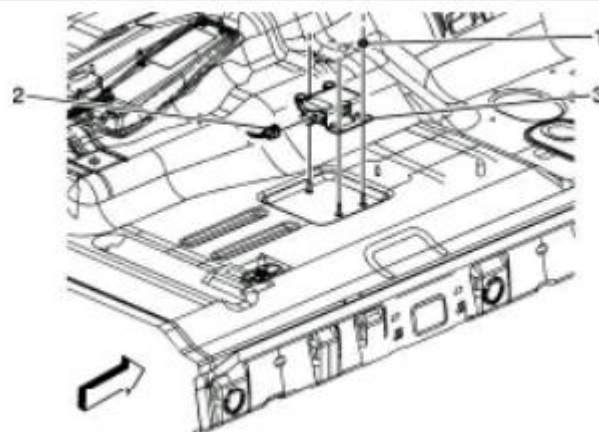

Figure 3.5: Removing the Yaw Rate & Lateral Acceleration Sensor
The lateral acceleration and yaw rate sensors are designed to send information regarding the lateral or side force and tilt (the yaw) of vehicle to the ESC module to keep the vehicle within certain safety parameters. Faulty lateral acceleration and yaw rate sensors causes the ESC light to illuminate on dashboard and also causes physical stability issues. The maintenance of lateral acceleration and yaw rate sensors involve removing, cleaning, replacing and installing the sensors. According to Kenneth (2016), the replacement of lateral acceleration and yaw rate sensors involve the following: disconnecting the negative battery cable, disabling air bag system, removing the seat mounting fastener and the front seat from the vehicle, disconnecting the electrical harness, unclipping the harness from the seat bracket, removing the yaw rate & lateral acceleration sensors mounting nuts (1), disconnecting the wiring harness connector (2) removing the yaw rate & lateral acceleration sensors (3) (as shown in Figure 3.5).